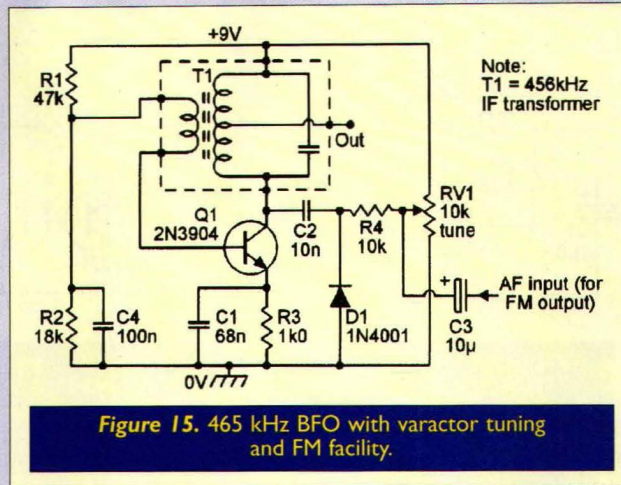

Figure 15. 465 kHz BFO with varactor tuning and FM facility.
Figure 15 shows the above circuit modified to give a frequency-modulation (FM) facility, together with varactor tuning via RV1. 1N4001 silicon diode D1 is used as an inexpensive varactor diode which, when reverse biased (as an inherent part of its basic silicon diode action) inherently exhibits a capacitance (of a few tens of pF) that decreases with applied reverse voltage. D1 and blocking capacitor C2 are wired in series and effectively connected across the T1 tuned circuit (since the circuit's supply rails are shorted together as far as AC signals are concerned).